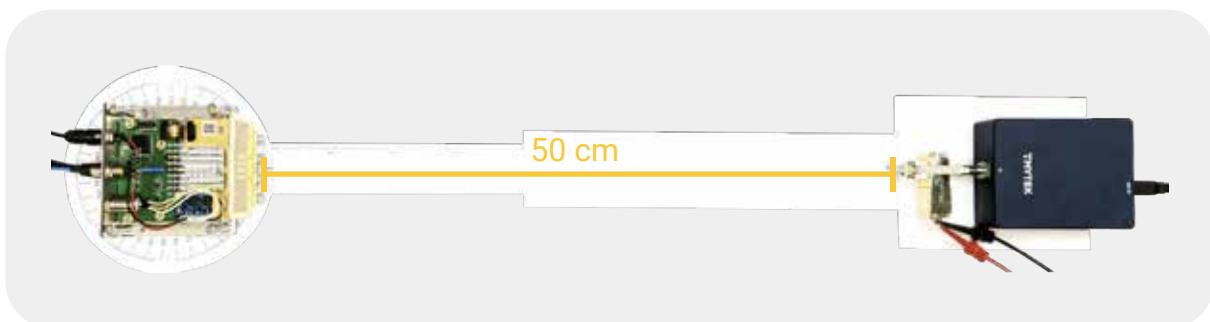

Figure 4. Configuration in Boresight Direction
- i. Make sure there is at least a 50 cm distance between the 5G FR2 array antenna and the COCO antenna as shown in Figure 4.